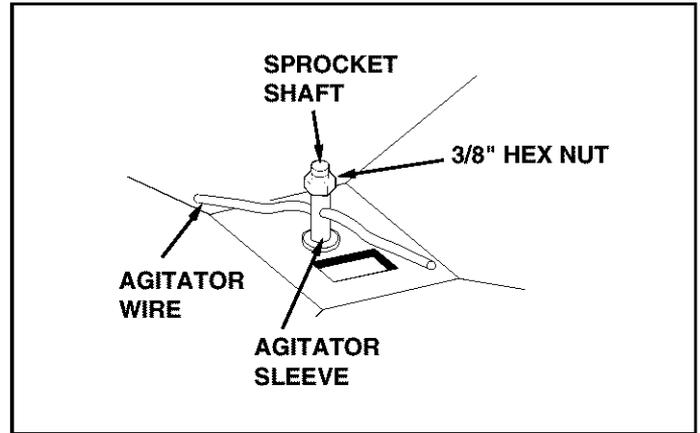

FIGURE 16
- If the agitator wire becomes damaged or worn it can be replaced. Loosen the 3/8" hex nut on top of sprocket shaft until agitator wire is free. Remove old agitator wire from hole in agitator sleeve and replace with new agitator wire. Position agitator wire so that sprocket shaft turns freely, then tighten 3/8" hex nut on top of sprocket shaft. See figure 16.